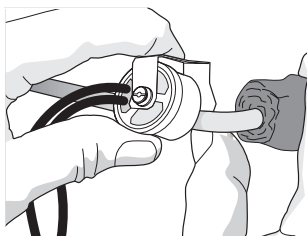

Figure 9b
6. Press on spring clip with thumb and raise thermostat free from evaporator coil. (See Figure 9b.)